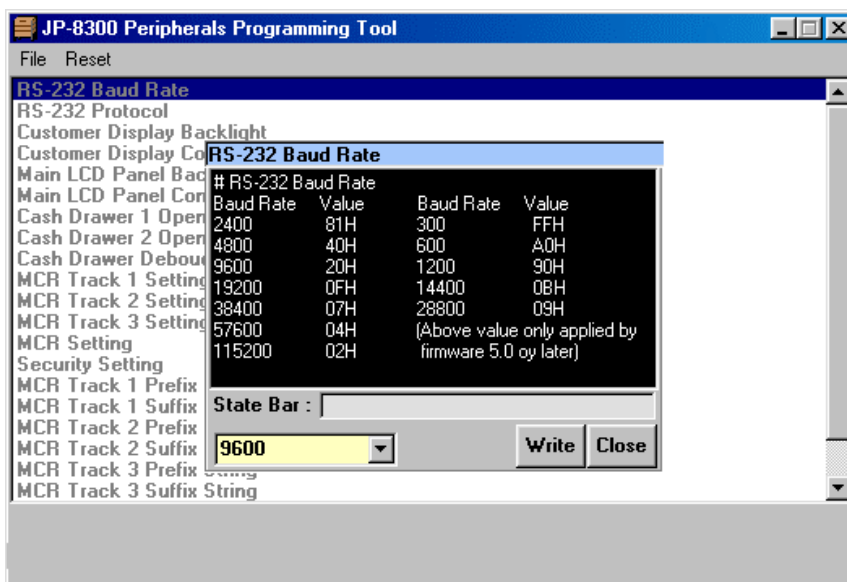

Figure 3-2
1. Change Values of each item(See figure 3-2):